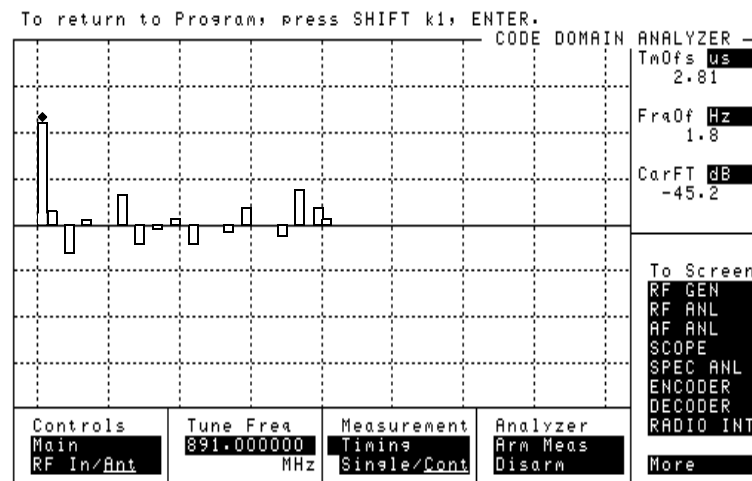

Figure 13
- 6 You should now see a display of relative timing, as shown in figure 13.